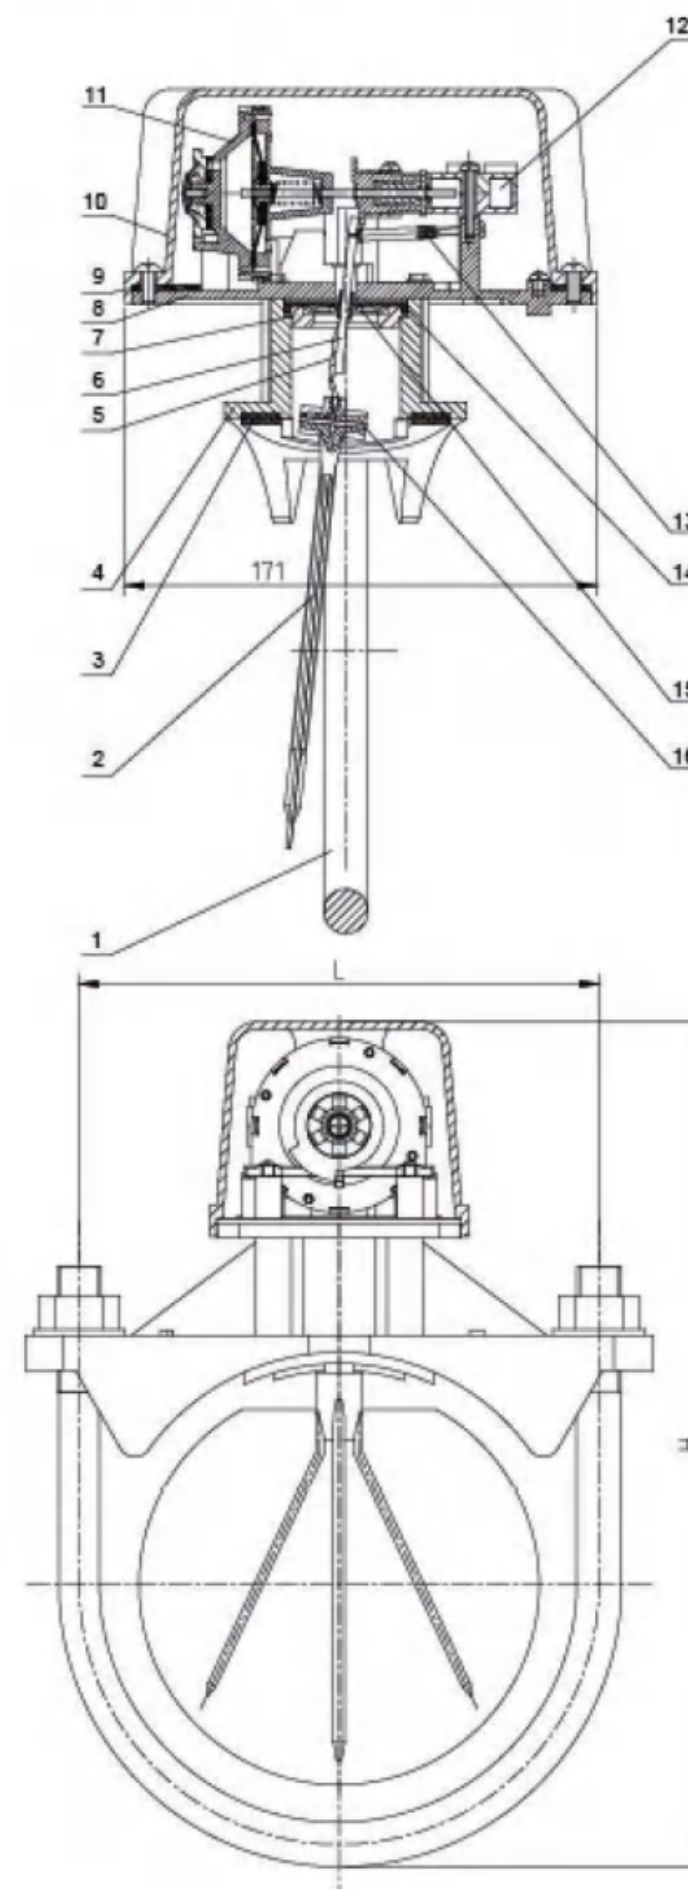

Figure 1 Outline Drawing
- The main outline drawing is shown in Figure 1 Outline Drawing.